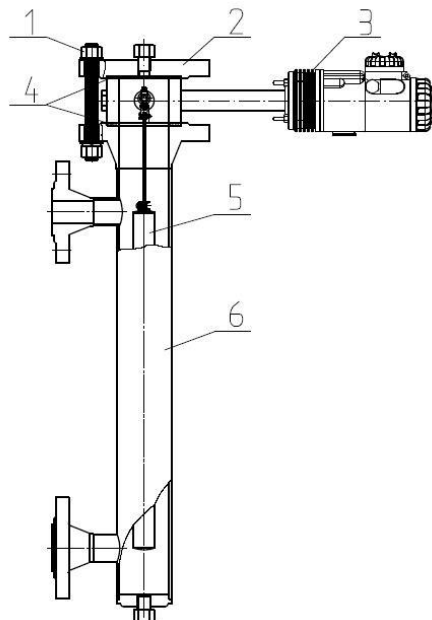

Figure 1 Product Structure
### 2.1 Main Structure of Product-Figure 1
6.2.1 When installing the measuring chamber, the axis of the outer cylinder side flange must be perpendicular to the horizontal plane (Figure 5). If the ZTD transmitter and the remaining parts are packaged separately, install the parts according to the position shown in Figure 1. If it has been installed as a whole, follow 6.3.5.